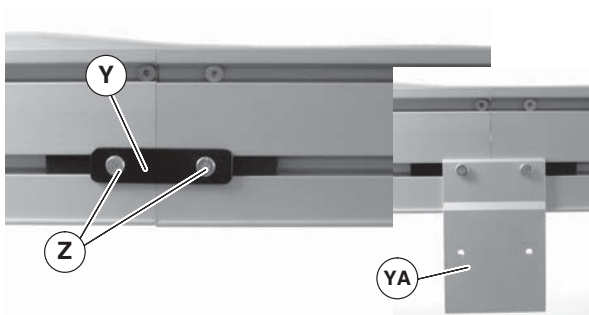

Figure 8
4. Join additional conveyor sections if necessary and install connector brackets (Figure 8, item Y) or connector/mount brackets (YA) and screws (Z) on both sides as indicated. Tighten screws to 60 in-lb (7 Nm).